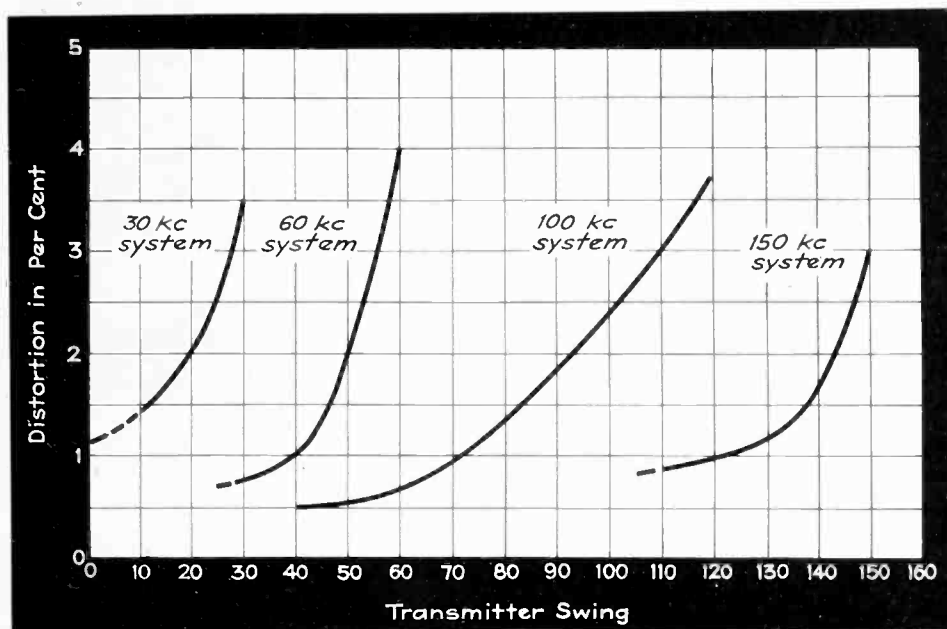

Fig. 3—Overall distortion as a function of percentage modulation, which corresponds with the transmitter swing, for the four degrees of frequency swing
2. *The overall distortion* (Fig. 3)